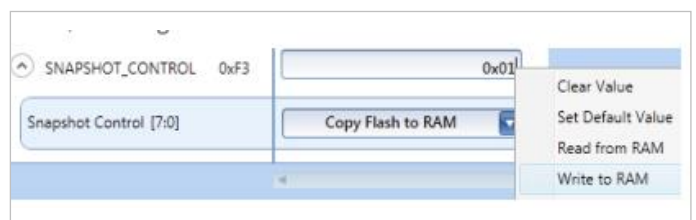

Figure 6: Write of SNAPSHOT in register view
- Restore snapshot data from NVM to RAM by writing 0x01 to SNAPSHOT\_CONTROL. This can be done in the Registers view by right-click and choose Write to RAM, see Figure 6.